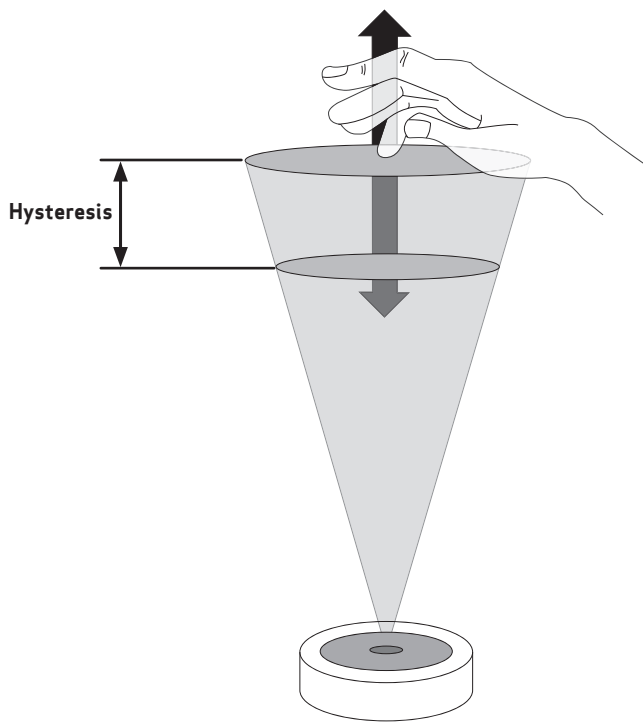

Figure 2c – Top-down activation
- A 'top-down' activation where the object enters the sensor zone from above the flat top of the cone and leaves by backing away from it. Note that as the object enters the sensor zone, the switch activates when the object reaches the flat top of the cone. As the object is removed, the switch de-activates at a greater distance than this to prevent switch chatter. This is known as hysteresis and is shown diagrammatically in Figure 2c and 2d.